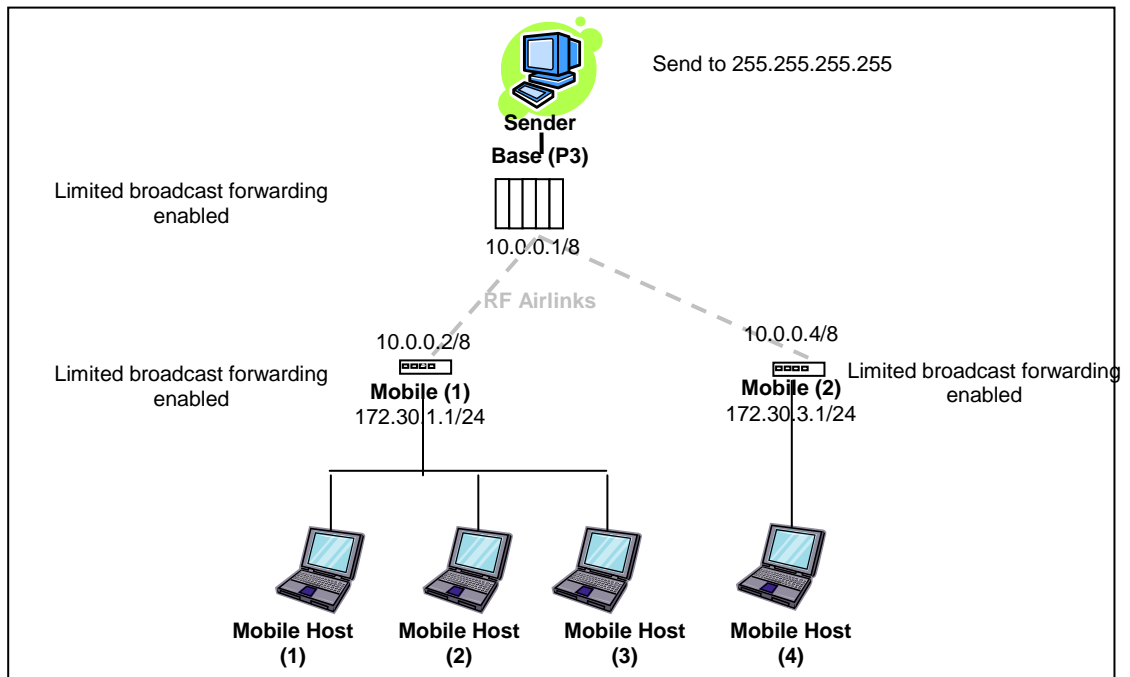

Figure 45 - Example of Directed broadcast forwarding enabled
In this example, (Figure 45) limited broadcast forwarding is enabled on the **Base** unit and on all **Mobile** units. **If Sender** wants to reach **Mobile Host (1)**, **Mobile Host (2)** and **Mobile Host (3)** and **Mobile Host (4)** with a single packet, he can send to destination address 255.255.255.255.